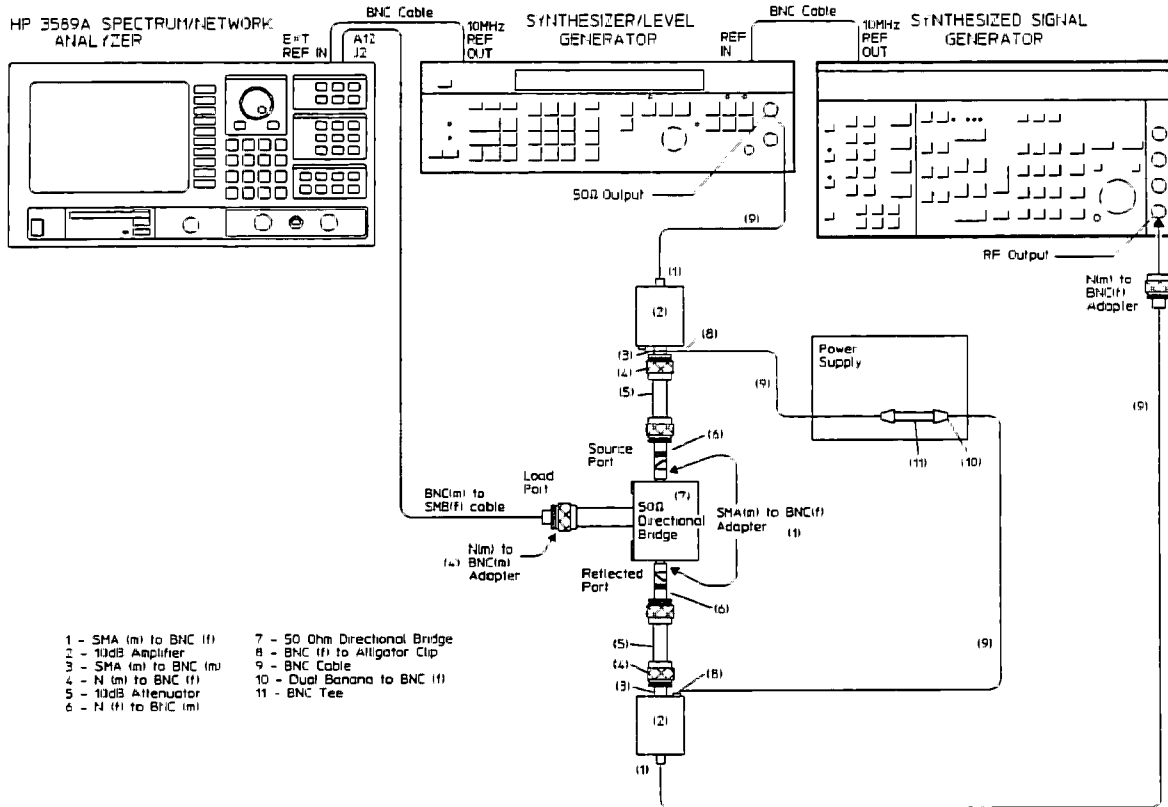

Figure 4-21. Troubleshooting Intermodulation Distortion
3. Connect the test equipment as shown in figure 4-21.